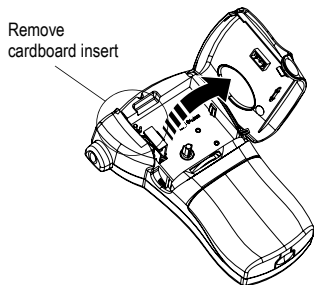

Figure 3
1. Press and release the tape cassette cover to open the label compartment. See Figure 3.
⚠ The first time you use the labelmaker, remove the protective cardboard insert from between the print head and pinch roller. See Figure 3.